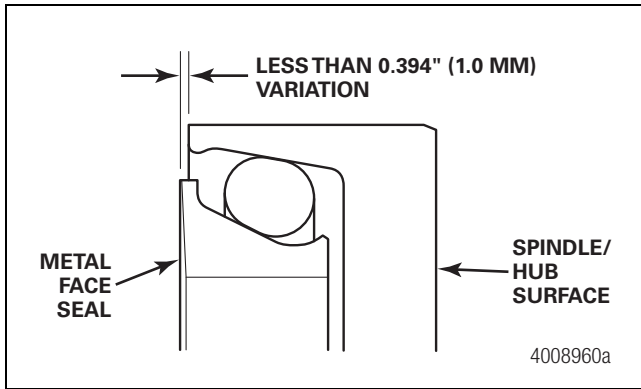

Figure 15.4
6. Check the seal's assembled height in at least four places 90 degrees apart. The variation must not exceed 0.394-inch (1.0 mm). Figure 15.4.